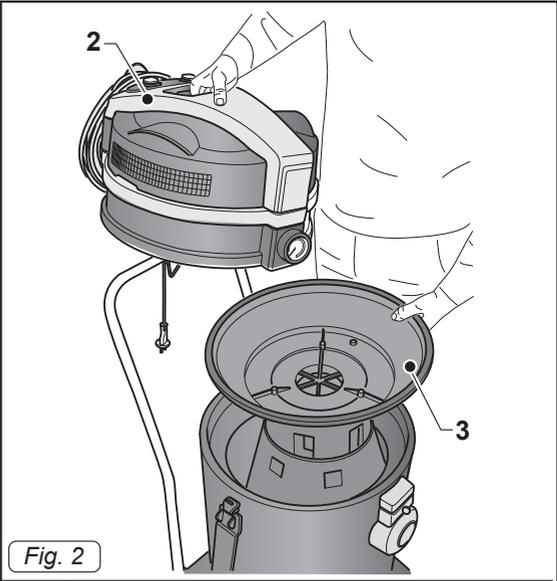

Fig. 2
- Release the levers (1 Fig. 1) and remove the cover (2 Fig. 2) complete with the motor unit and floater-holder (3 Fig. 2).